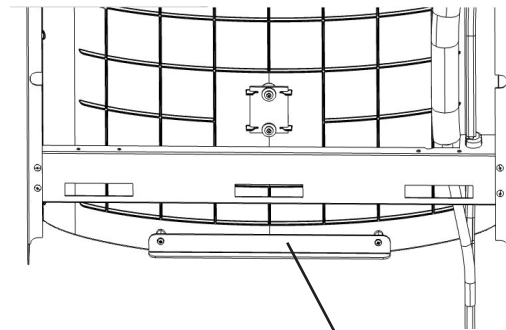

Fig. 11
- 6) Install gasket on bottom of bottle filler tower with gasket support bracket & (2) screws (See Fig 11).